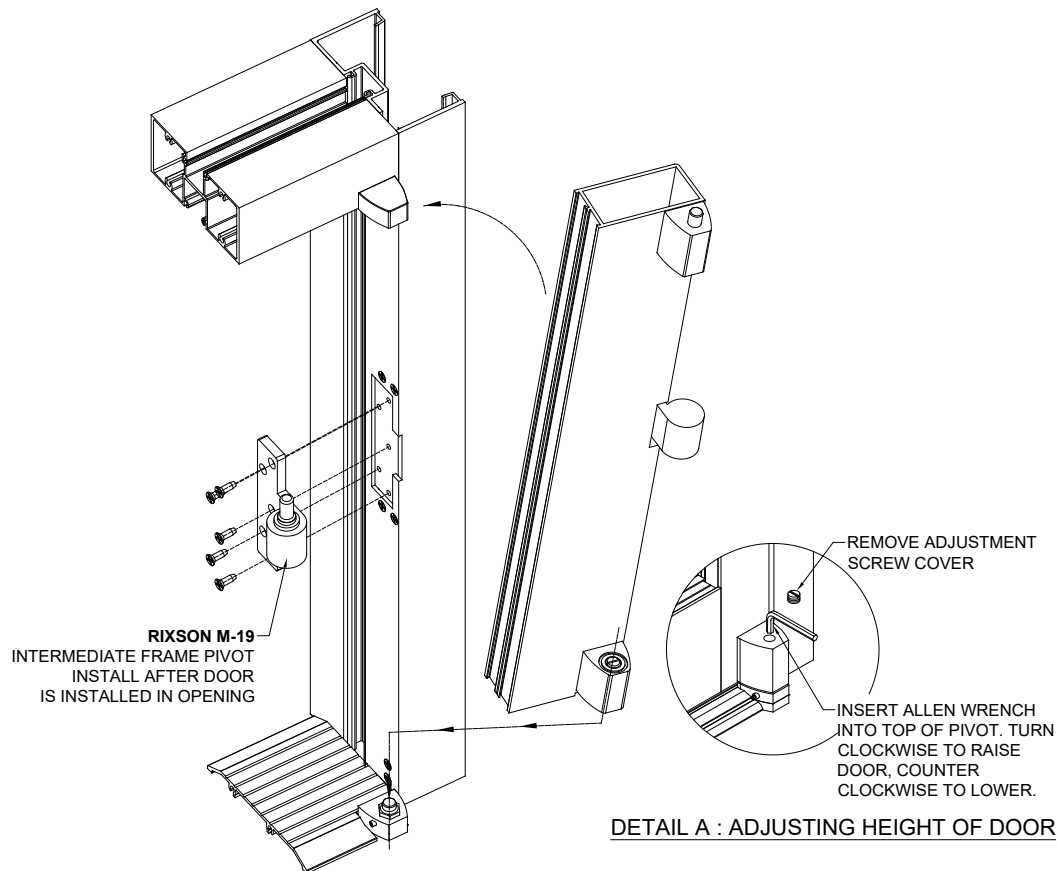

Figure 50: Hanging Door with Offset Pivots
Reference Figure 50 for a visual guide to installing the pivots and hanging the door.
- Offset Pivot doors may be adjusted vertically by removing the slotted set screw at the bottom pivot to access an internal hex head (Allen) adjustment socket. The procedure for this is shown in Figure 50, Detail A.